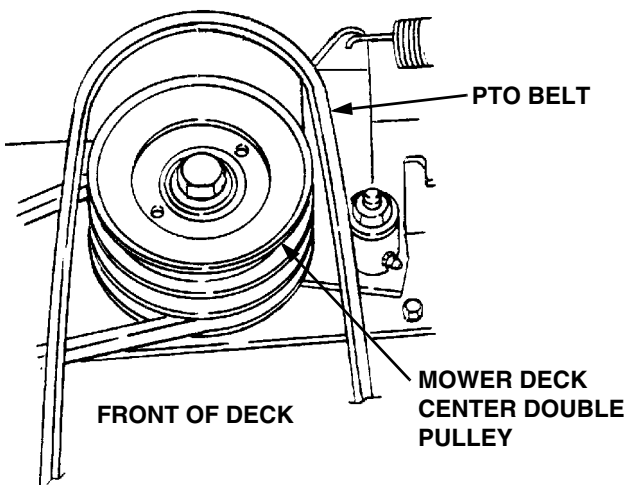

Figure 52
14. Working from the left/rear of the mower deck, make sure there is only a 1/4 twist inward in both runs of the belt. Then install the narrow side of the rearward end of the PTO belt onto the upper pulley of the deck center double-pulley (Refer to Figure 52).